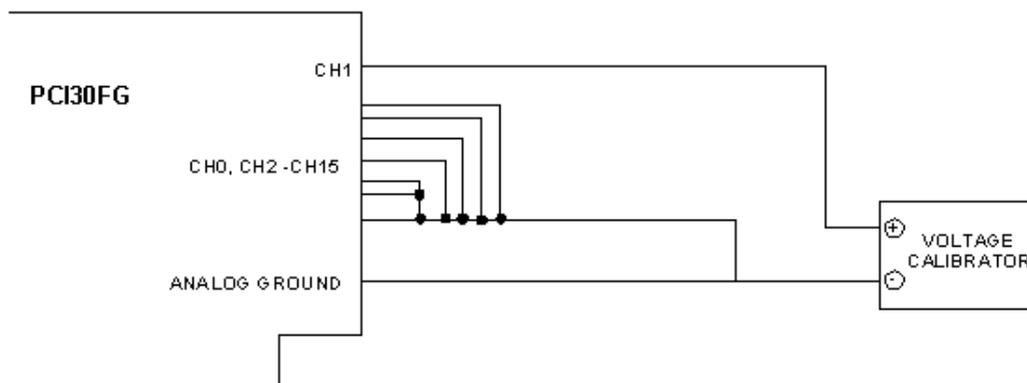

Figure 5-1 A/D Calibration Connections
- Calibration is done on channel 1. The recommended connector wiring is shown in Figure 5-1.